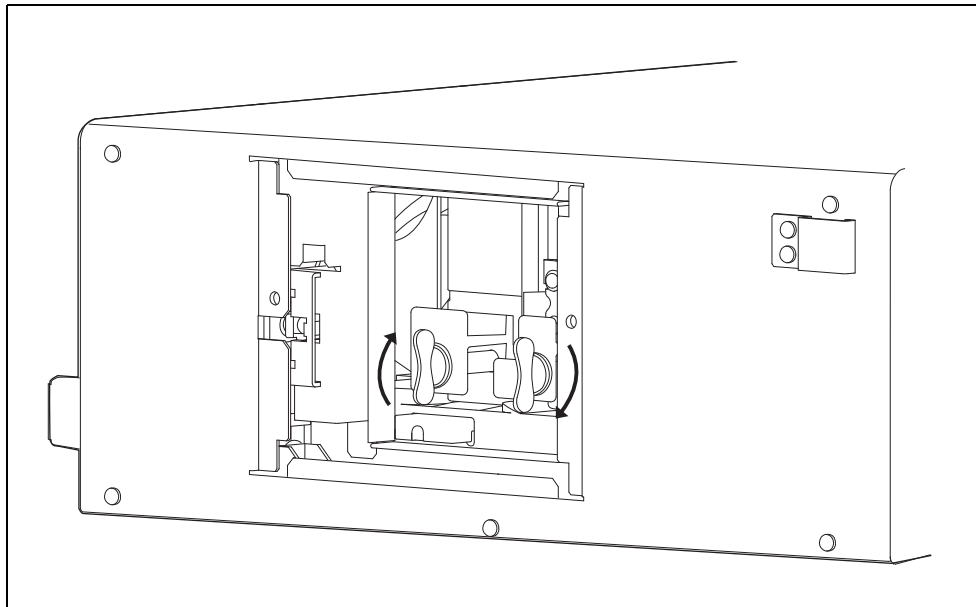

Figure 6.13
- 9** Turn the knob (A) clockwise by 90° from the horizontal position until it stops while pushing the knob. (See Figure 6.13)